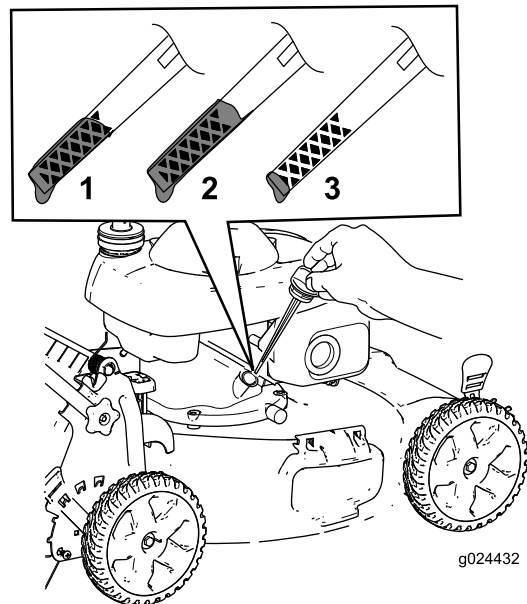

Figure 21
3. Remove the dipstick by rotating the cap counterclockwise and pulling it out (Figure 21).
4. Tip the machine onto its side (so that the air filter is up) to drain the used oil from the oil-fill tube (Figure 21).
10. Read the oil level on the dipstick (Figure 21).